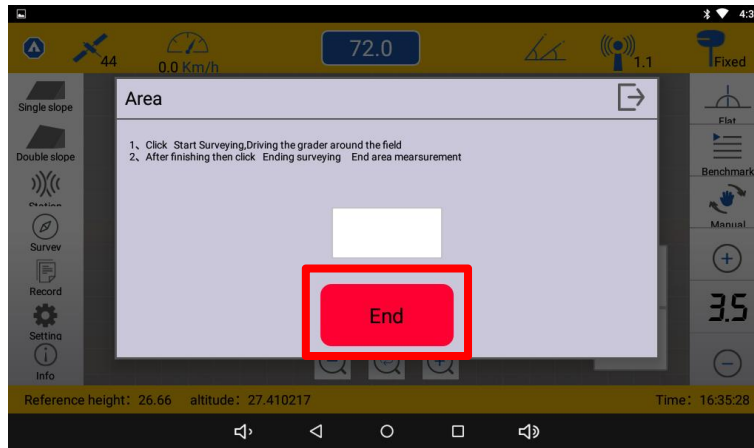

Figure 31
Step3. After completion, click End to display the measured area. (Figure 31, 32)